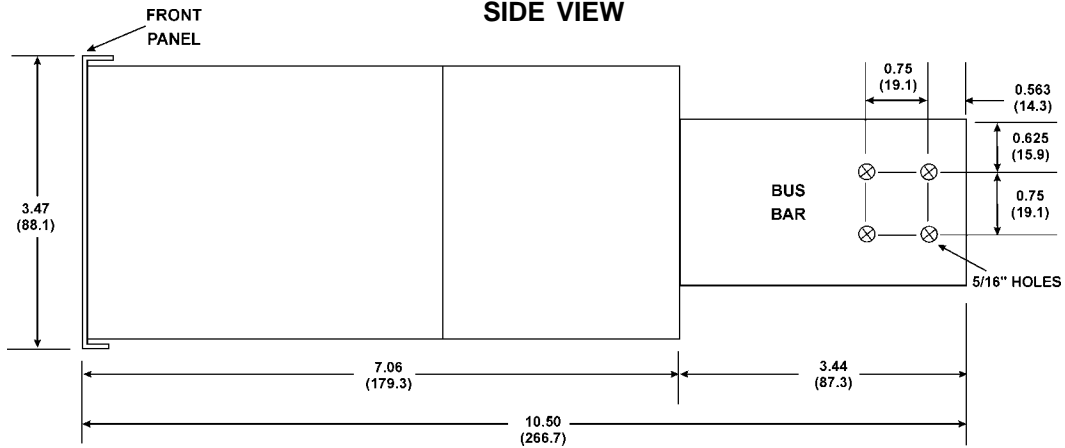

Figure 3. Back and Side Views of LVD400/600
9.2 The LVD400/600 is connected between the a rectifier and battery or load. The contactor is therefore either in series with the rectifier and load or the rectifier and battery. If the battery voltage drops to approximately 42.5V for a 48V battery or 21.25V for a 24V battery, the contactor opens, removing the load from the rectifier and battery or, alternatively, removing the battery from the rectifier and loads. The disconnect contactor is rated at 400 or 600 amperes (depending on model). See Figures 3 and 4.
- 11.1 Back and side views of the LVD400/600 are shown in Figure 3. The LVD400/600 can be connected for either load or battery disconnect.